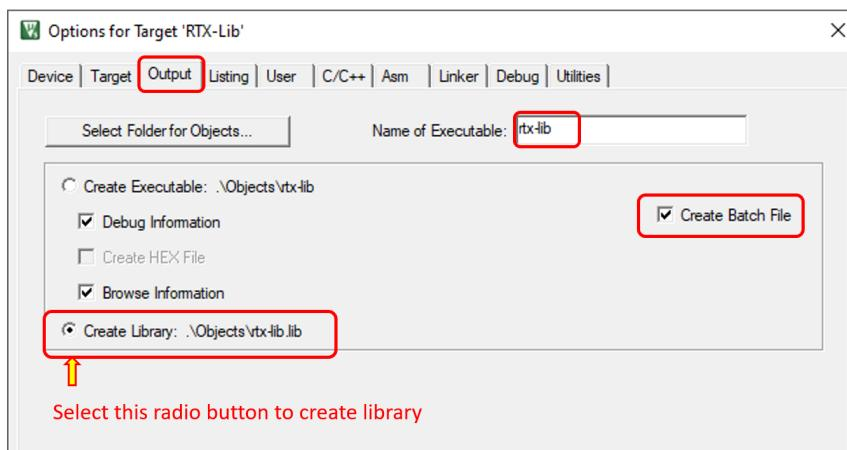

Figure 8.41: Keil IDE: Target Options Output Tab Library Creation Configuration
3. The most important step is to configure the output to be a library as shown in Figure 8.41